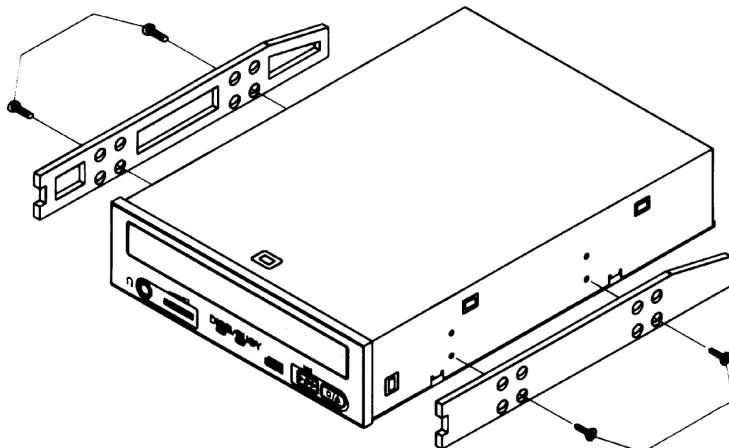

Figure 14: Installing Mounting Rails (if Needed)
5. If you must use mounting rails, fasten the rails to the lower pair of holes as shown in Figure 14. (In some instances, you may need to fasten the rails to the upper set of holes.) After fastening the rails, check their positioning by sliding the drive into the bay before you mount the drive or connect any cables.